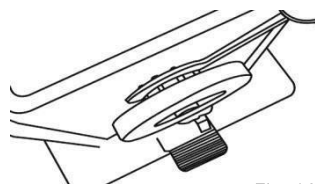

Fig. 14
4. Mount the grinding wheel on the valve and insert the nut (Fig. 14).